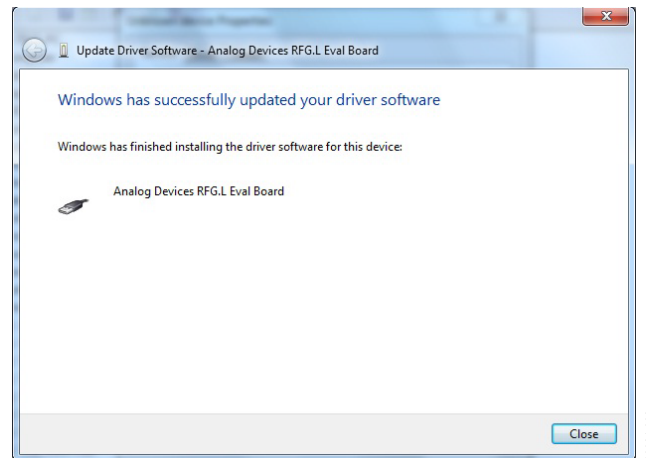

Figure 9. Successful Install
7. If the install was successful, the message box in Figure 9 appears.